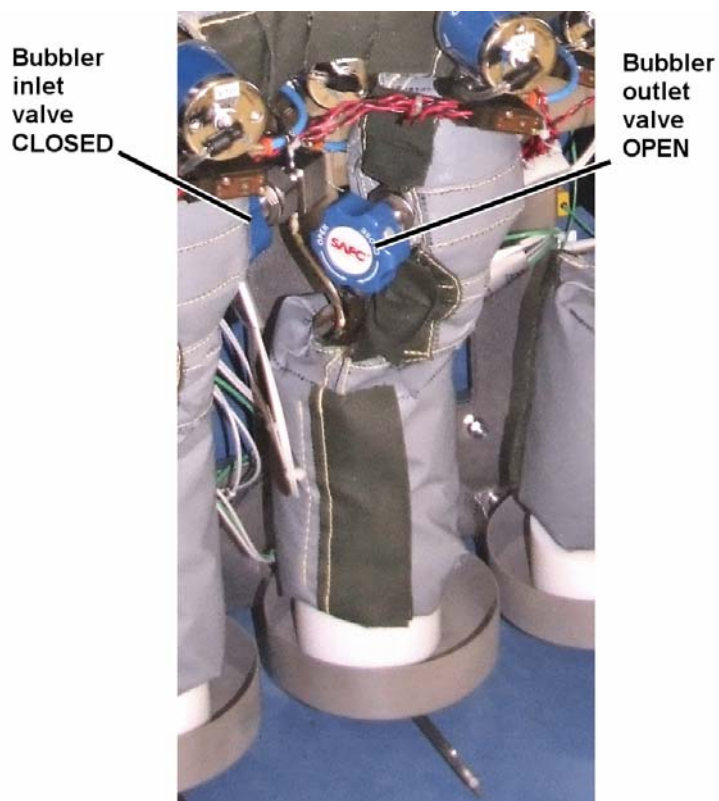

Figure 5-38 Bubbler manual valves set for vapour draw mode
- 6 Close the manual inlet valve on the ampoule (see Figure 5-38).